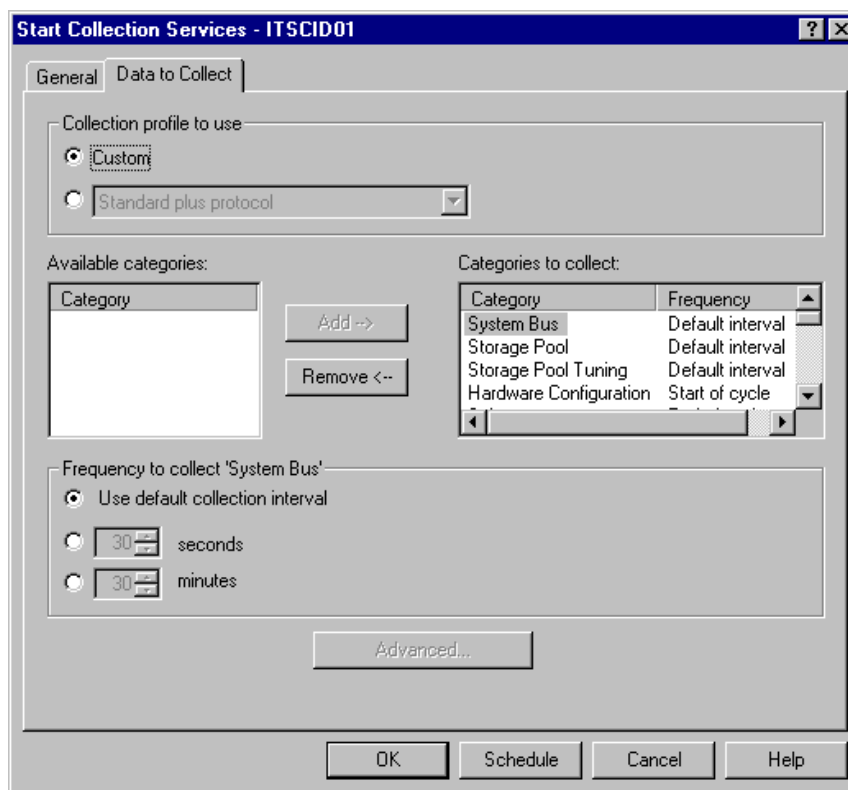

Figure 112. Start Collection Services window: Data to Collect page
6. Click the **Data to Collect** tab to see the window that is shown in Figure 112.